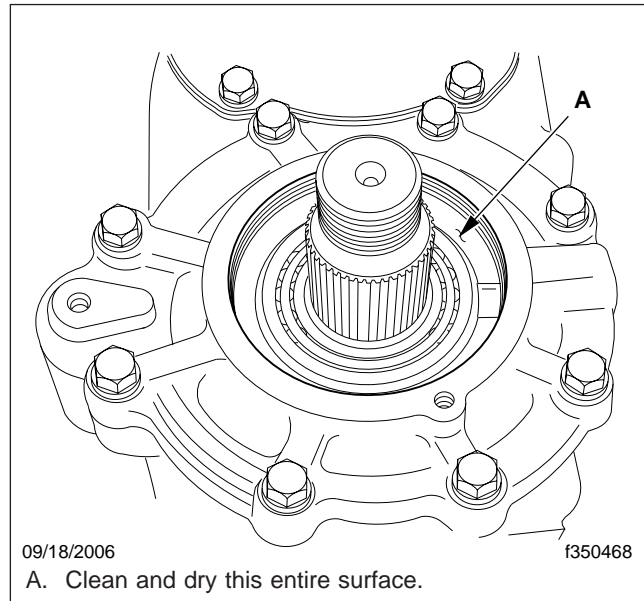

Fig. 2, Bearing Cavity Exposed
5. Remove the threaded ring to expose the bearing cavity. See Fig. 2.
6. Using a suitable solvent such as brake cleaner, clean the surface of the bearing cavity. See Fig. 2. Dry the surface, making sure no cleaning solvent remains.